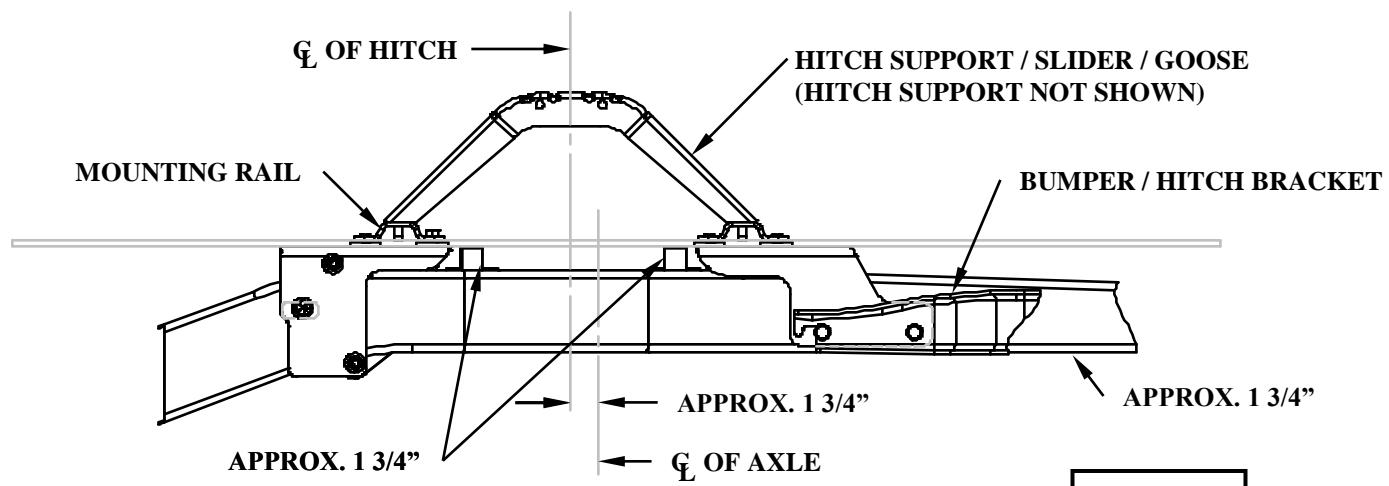

Figure 3
4. With the bumper/hitch bracket rotated down to provide space for the frame brackets (10) & (11). Position frame brackets (10) & (11) on to the vehicle frame. Rotate bumper/hitch frame bracket back to location and loosely install 14m bolts (14) with 9/16" lock washers (15). **Note:** The frame bracket (10) & (11) should be sandwiched between vehicle frame and bumper/hitch bracket.
5. Place the rear mounting rail in the box of the truck, using your tape measure, center the rail between the weld seams on the length of the truck box floor and the proper distance from the rear edge of the truck see Figure 3.
6. Mark and center punch the holes as per Figure 3. Move the rail out of the way and drill each position with a 1/8 drill bit. **Warning:** When drilling holes be aware of potential risks to vehicle components and make appropriate safe guards to protect them from damage.
7. Check that the 1/8" inch drilled holes align with the slots of the rear frames brackets (10) and (11).
12. Mark and center punch the holes as per Figure 3. Move the rail out of the way and drill each position with a 1/8" drill bit. **Warning:** When drilling holes be aware of potential risks to vehicle components and make appropriate safe guards to protect them from damage.
13. Rotate the driver's side (8) and passenger's side (9) front brackets into place on the outside of the driver's side frame rail, such that the top and bottom bolt holes maintain clearance on top and bottom of the frame, while the middle hole aligns with the existing frame slot. Placing the top of the bracket against the bottom of the truck bed. Check that the 1/8 inch drilled holes align with the slots of the front frames brackets (8).
- Insert one 1/2" x 5 1/2" carriage bolt (4) through each square hole on a bracket strap (12) such that the bolt slides snugly into position.
- Starting with the front mounting hole first on the driver's side, position the strap (12) and bolts (4) on the inside of the frame such that the bolts slide through the top and bottom strap holes on the bracket.
- Install the 1/2" conical washer (1) and 1/2" nut (7). (hand tighten only)
- Install the 5/8" x 1 3/4" bolt (5) with flat washer (3) through frame brackets (8)(9) and frame, install 5/8" washer conical (2), S bracket (13) (drivers side only) and 5/8" nut (6). (hand tighten only)